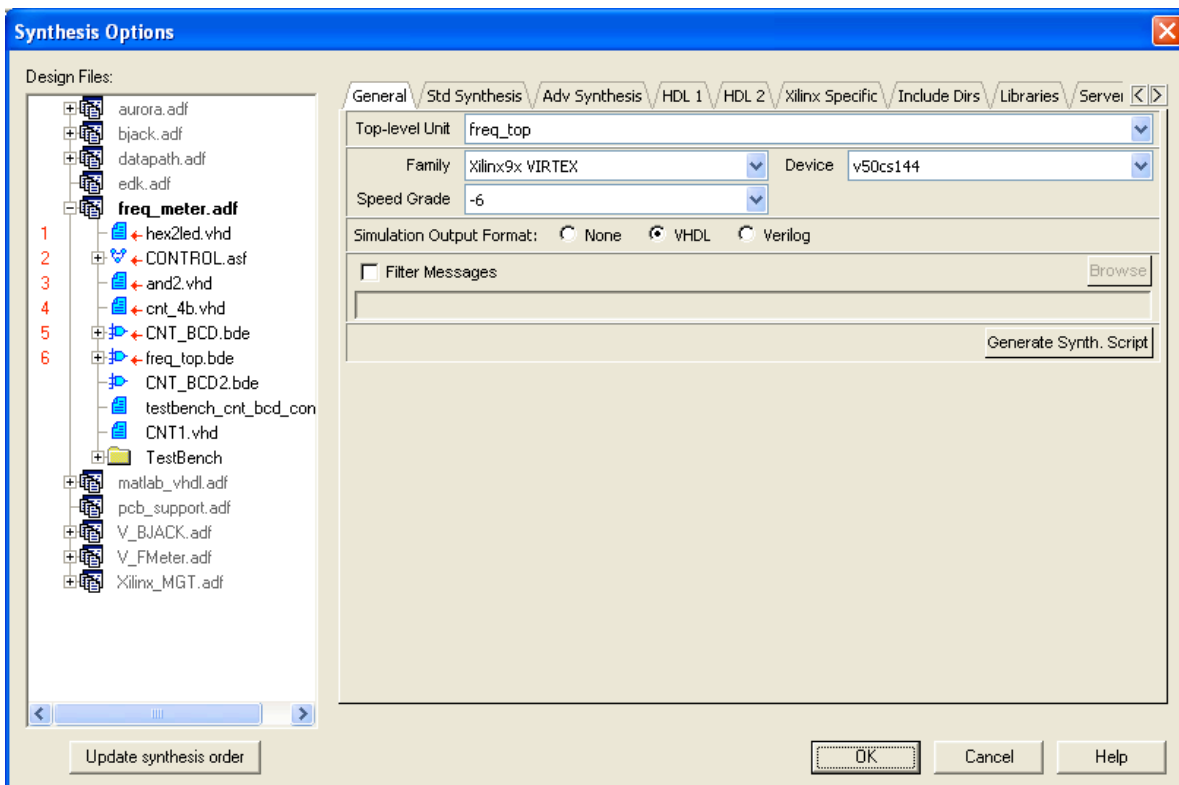

Figure 19: Xilinx ISE/WebPack XST Synthesis Options
2. Make sure all design files are on the design tree of the synthesis option. You can select or deselect them by right clicking them. Let’s have six design files selected for Synthesis as shown in Figure 19.